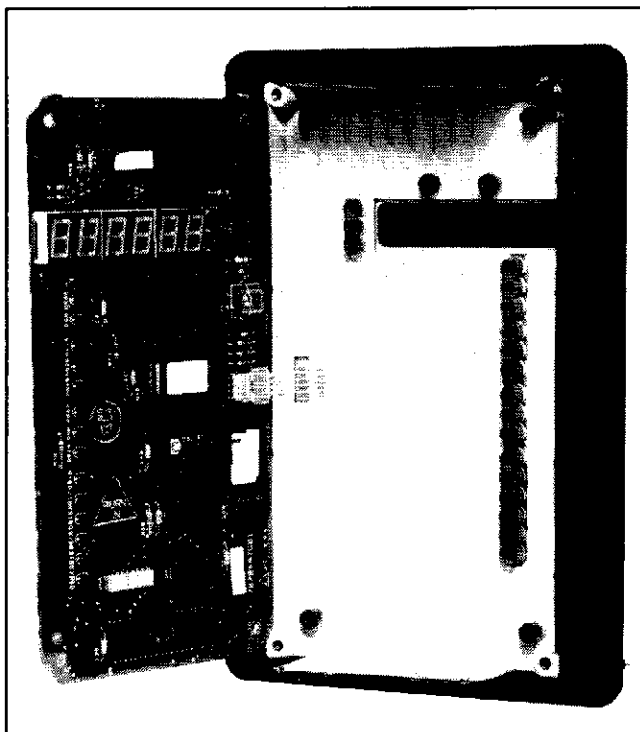

Fig. 4 Connection from Faceplate to Front Board
15. Place a hand across the rear of the unit and slowly turn the unit upside down allowing the board to rest on your hand. Remove the four-pin lead connecting the board to the membrane switch faceplate from jumper P7 on the circuit board (See Figure 4).
24. Hold the board with the EPROM so that the display is aligned with the window of the front case. Reconnect the four-pin connector from the faceplate to jumper P7 on the circuit board being sure that the ribbon cable is not twisted (See Figure 4).